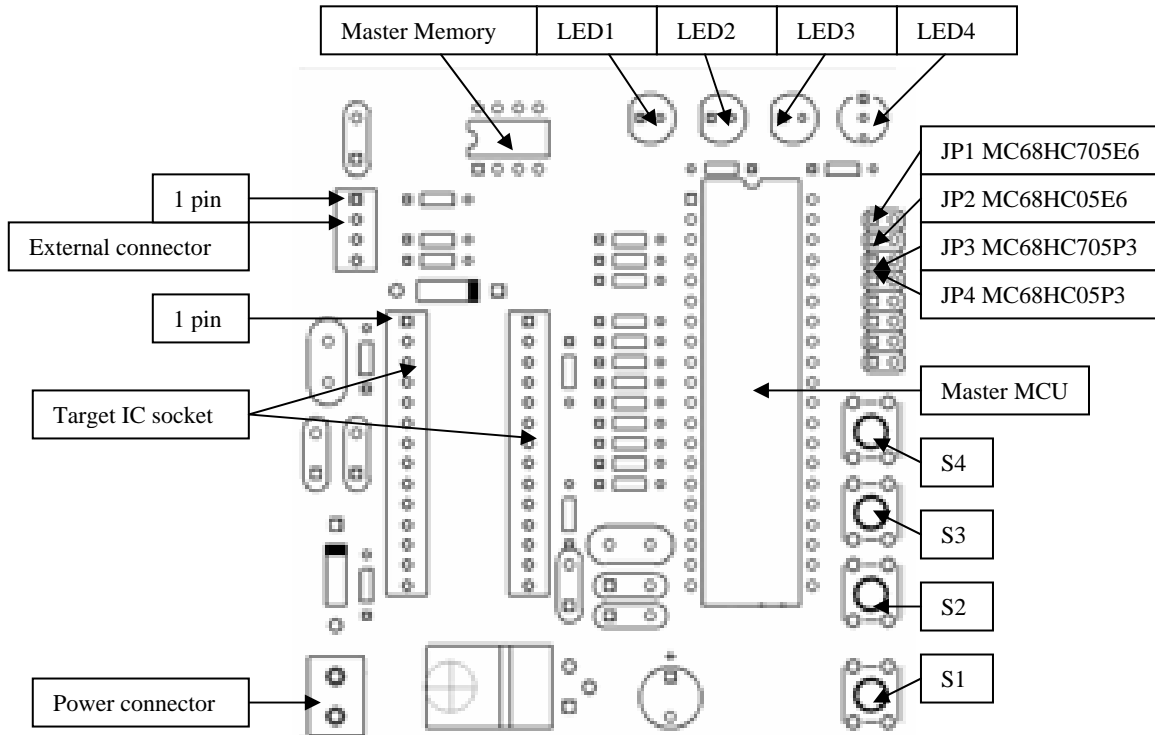

Figure 1.
To understand E6 Copier components meaning see Figure 1 and Table1. To install and use the E6 Copier, follow these steps:
- Insert target IC for example, MC68HC705E6 into 28 pins on board socket (see Figure 1) Make sure JP1 mounted, JP2 and JP3 left free